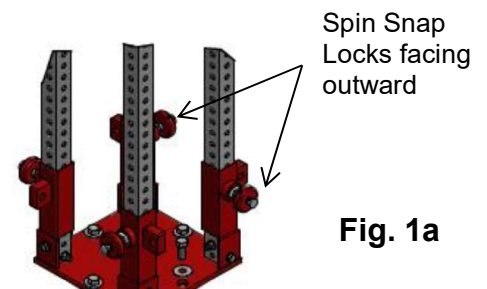
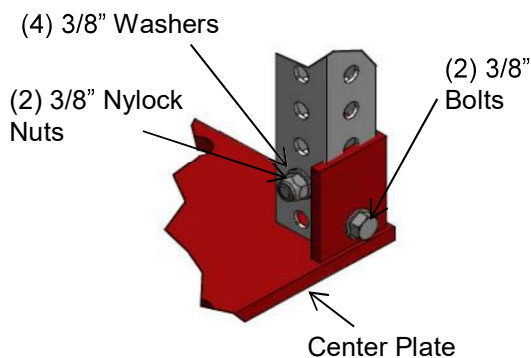

Fig. 1a
Fig. 2
2. Position the **Center Plate** on the floor and mount (4) **Adjusting Tubes** on the **Center Plate** with the **Spin Snap Locks facing outward** (see Fig. 1a & 2). Assemble using the supplied hardware as shown below (see Fig. 2).
3. Now assemble the **Top Center Plate** (see Fig. 2 & 3a).